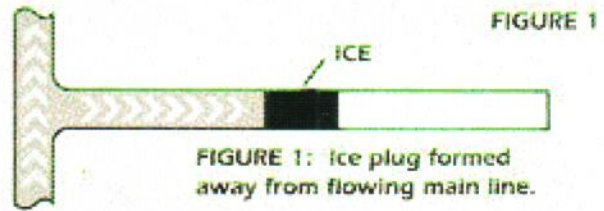

FIGURE 1: Ice plug formed away from flowing main line.
5. Do not attempt to freeze close to a main line which has flowing water. The **turbulence** can prevent formation of ice plug. (Figure 1 shows how Qwik-freezer should be used close to a main line with flowing water). A minimum of 12" (1" pipe) from water main is required. For every 1" of
pipe diameter, add 12" from main. (see Figure 1).